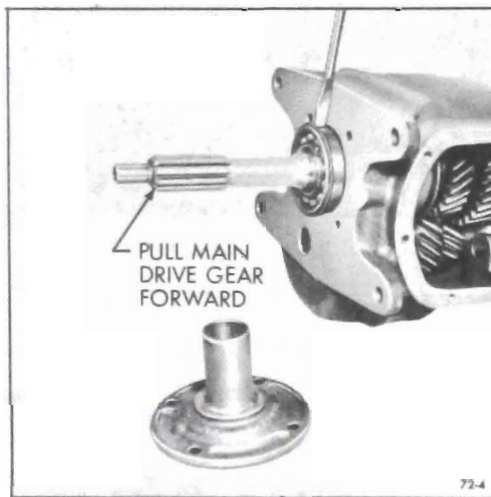

Figure 72-4-Removing Front Main Bearing
5. Remove front main bearing by pulling main drive gear out of case as far as possible. See Figure 72-4. Remove front bearing.